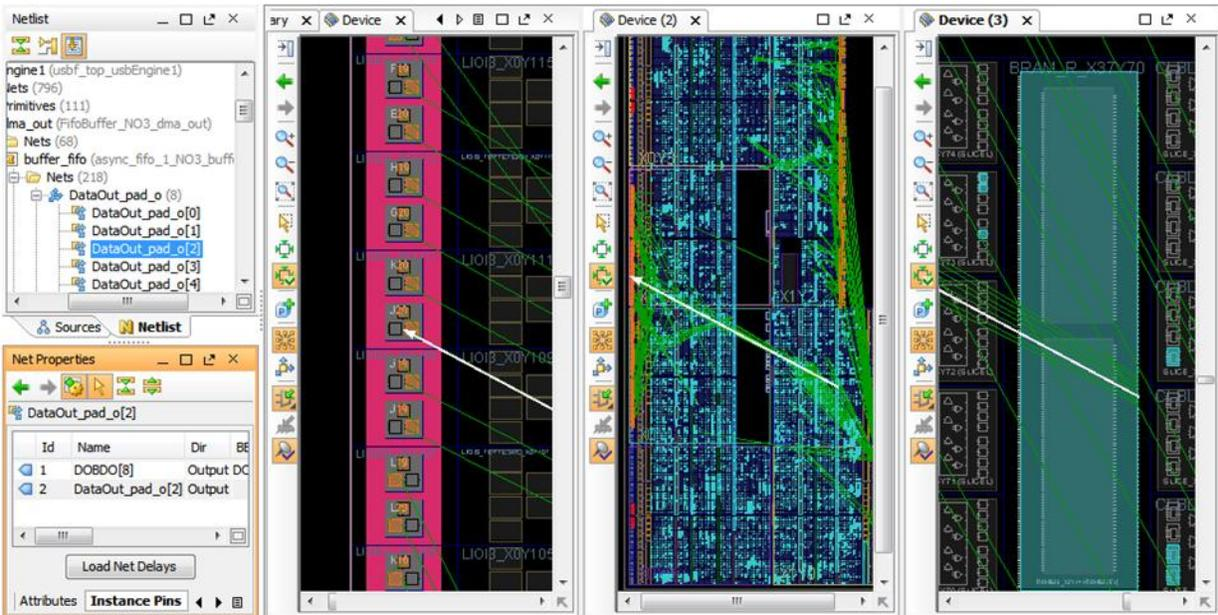

Figure 34: Device View with I/O Connectivity
- Inspect the net name in the Netlist view, and examine the net properties in the Properties view, as shown in FIGURE 34.